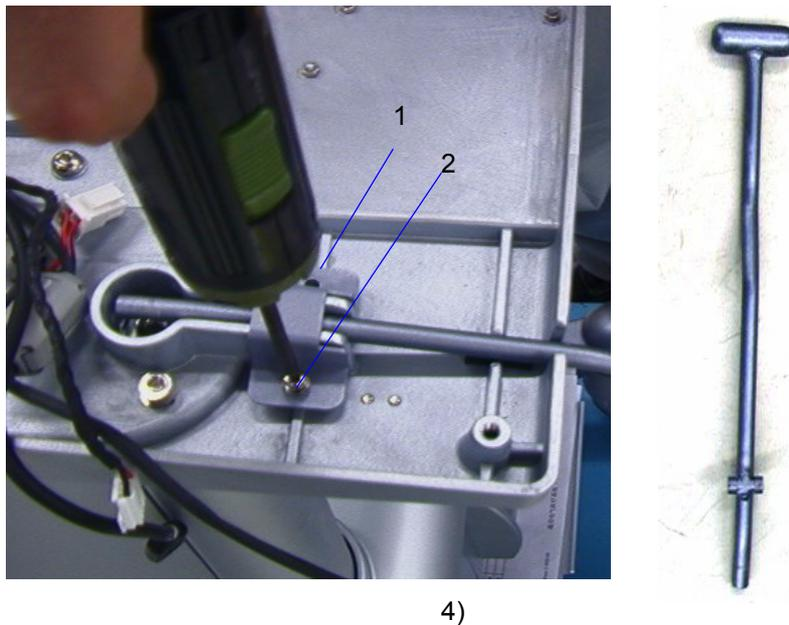

Figure 8-18 Gas Spring Lever Disassembly
- 4.) Unscrew 2 screws [M4X8] which fix gas spring lever and remove it, refer to Figure 8-18 on page 33.